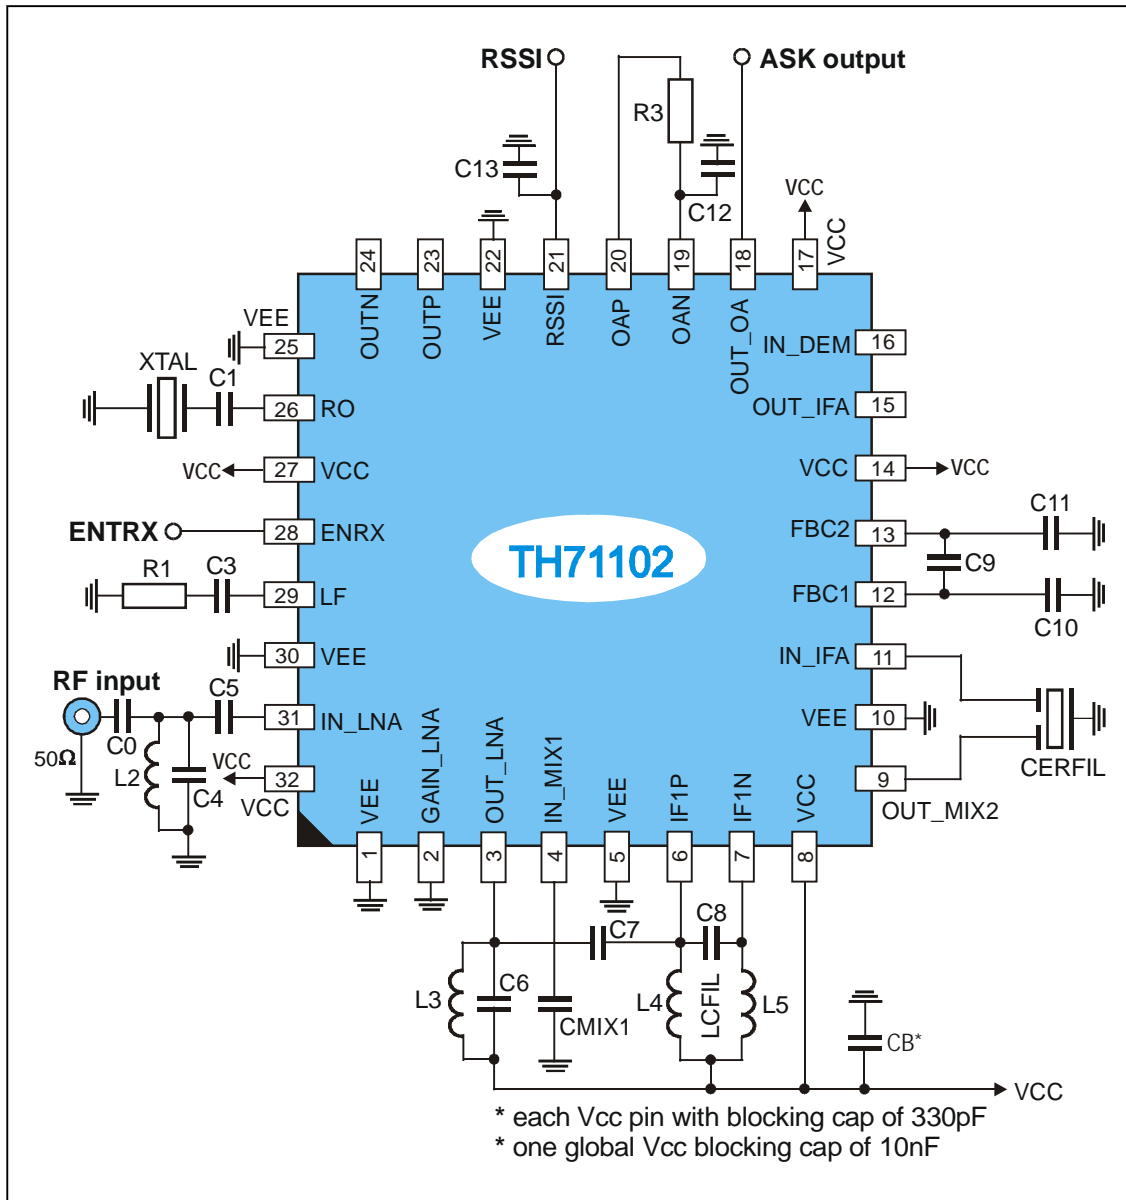

Fig. 3 Circuit diagram for ASK reception
5.1 Board Component Values for ASK (Fig. 3)